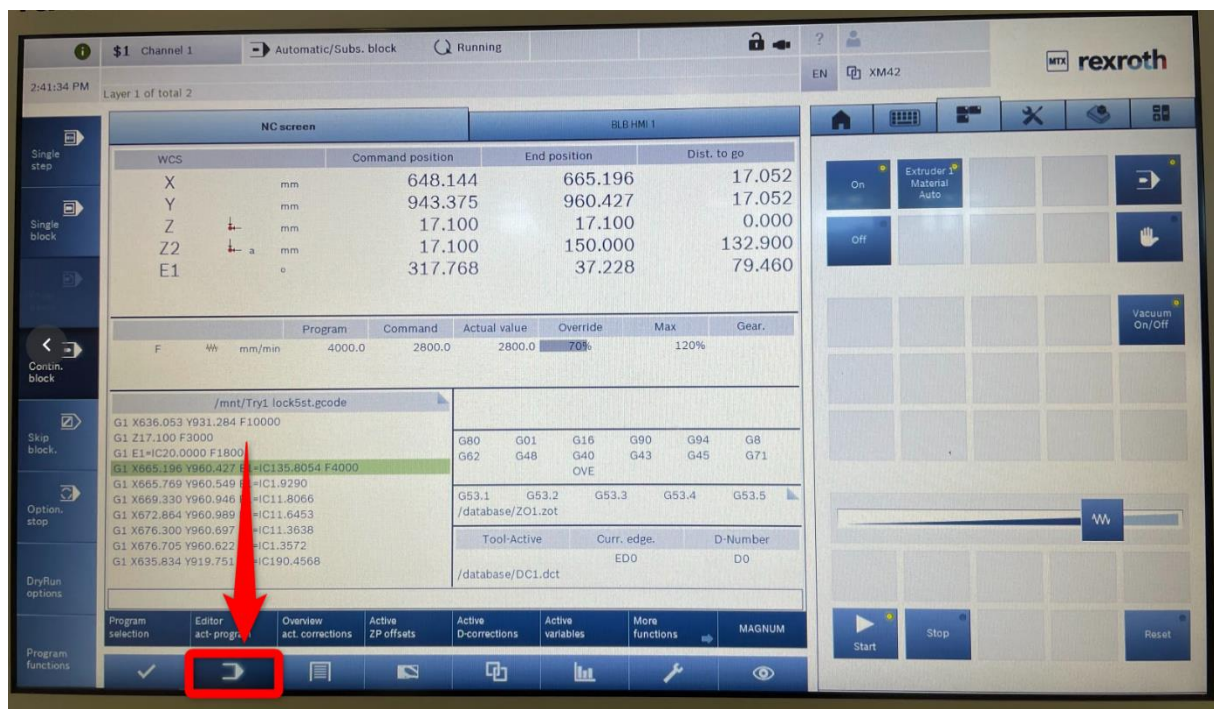

Figure 23
3. To select a program, navigate to the Program Block (fig 23).